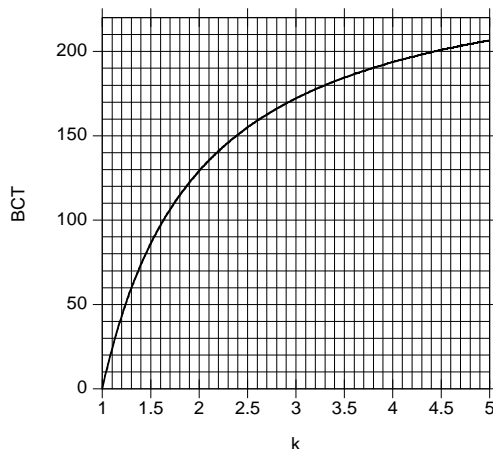

Figure 17: Relation between the k Ratio and the Optimum BCT to Recover Linearity
Equation (6) is plotted in Figure 17.